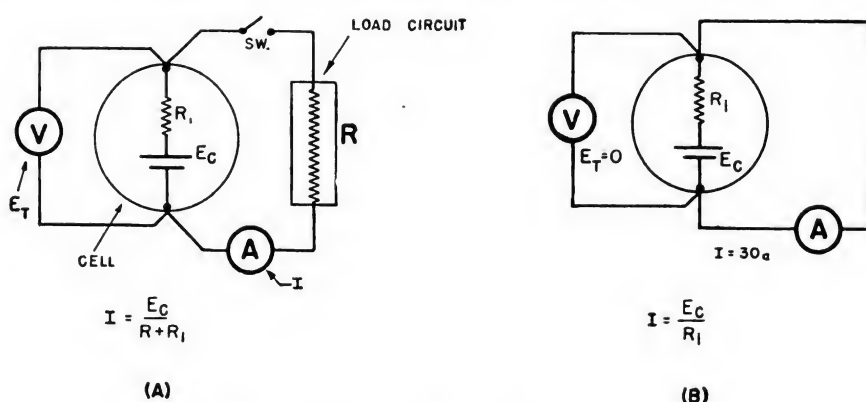

Figure 66.—Cell terminal voltage.
In (A) of figure 66, you have a 1.5-volt dry cell connected in a simple circuit. When the switch is open, the cell delivers no current, and the terminal voltage (E_t)—that is, the voltage across the terminals—will be the same as the cell voltage (E_c). The terminal voltage is also known as the OPEN-CIRCUIT OR NO-LOAD VOLTAGE of the cells.
The fall in terminal voltage sets a definite limit to the amount of current you can draw in the circuit. If you reduce the load resistance to zero, as you see in (B) of figure 66, the cell is short-circuited and maximum current flows.